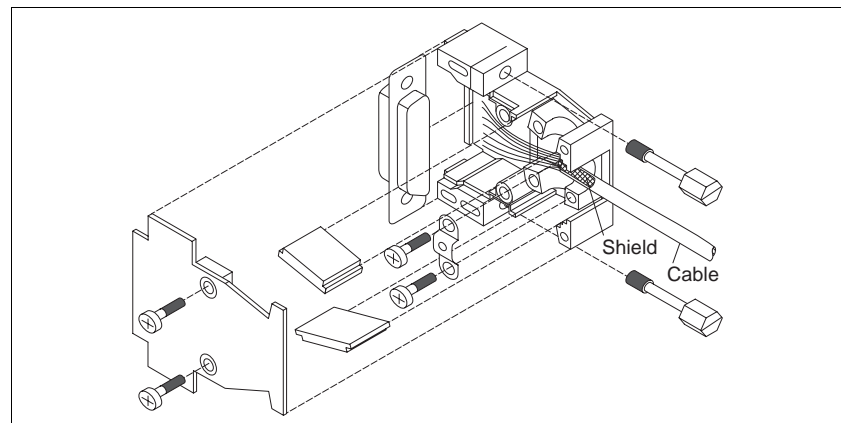

Fig. 2-9 Limit switch connector
3. Insert two hexagon head bolts (fig. 2-9) into the connector shell.
8. Fasten the connector to the front panel (item 58) with screws.